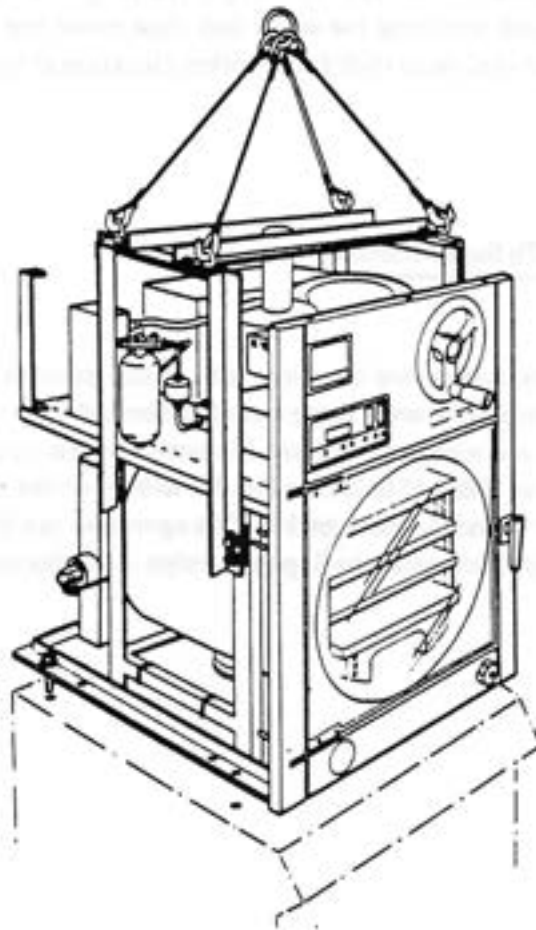

Fig.12 Aligning rear corners
- e) Gently lower the RC3S unit onto the Supermodulyo, aligning the four bolt holes. (See Fig. 12)